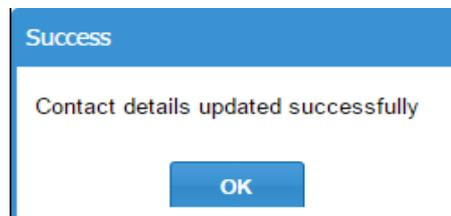

Figure 59 Success pop-up window
3. Click **Submit**. A pop-up window displays a success message, as shown in Figure 59 on page 50.